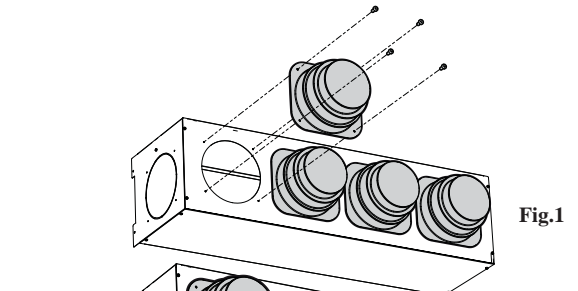

Fig.1
- Use the self-threading screws to fasten the flanges on the PA_V plenum (fig.1).